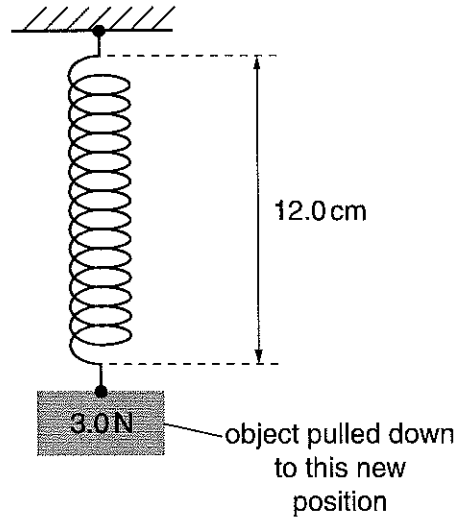

Fig. 7.2
- (b) The object is pulled vertically downwards. Fig. 7.2 shows the new length of the spring.
- (ii) The object is released from its position shown in Fig. 7.2. Calculate the initial upward acceleration a of the object.